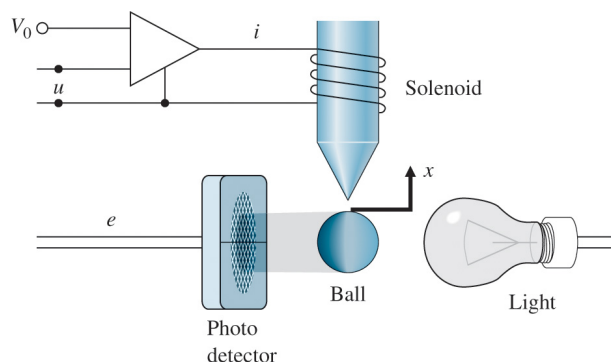

Fig. 5.60 Elementary magnetic suspension
28. An elementary magnetic suspension scheme is depicted in Fig. 5.60. For small motions near the reference position, the voltage  $e$  on the photo detector is related to the ball displacement  $x$  (in meters) by  $e = 100x$ . The upward force (in newtons) on the ball caused by the current  $i$  (in amperes) may be approximated by  $f = 0.5i + 20x$ . The mass of the ball is 20 g, and the gravitational force is 9.8 N/kg. The power amplifier is a voltage-to-current device with an output (in amperes) of  $i = u + V_0$ .